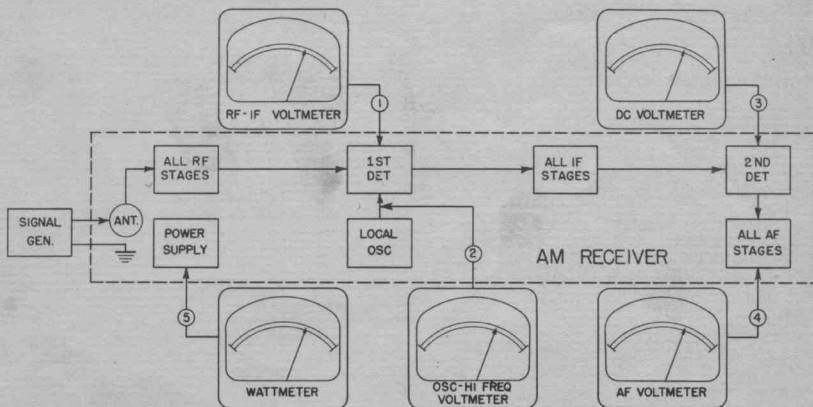

Figure 4.1 - Basic Circuit Typical Receiver
d. As the traceometer circuits are so designed that seven measurements may be made simultaneously without disturbing the operation, correct or incorrect, of the circuit under test, any trouble may be readily isolated. A block diagram of the basic circuit of a typical receiver is shown in Figure 4.1.